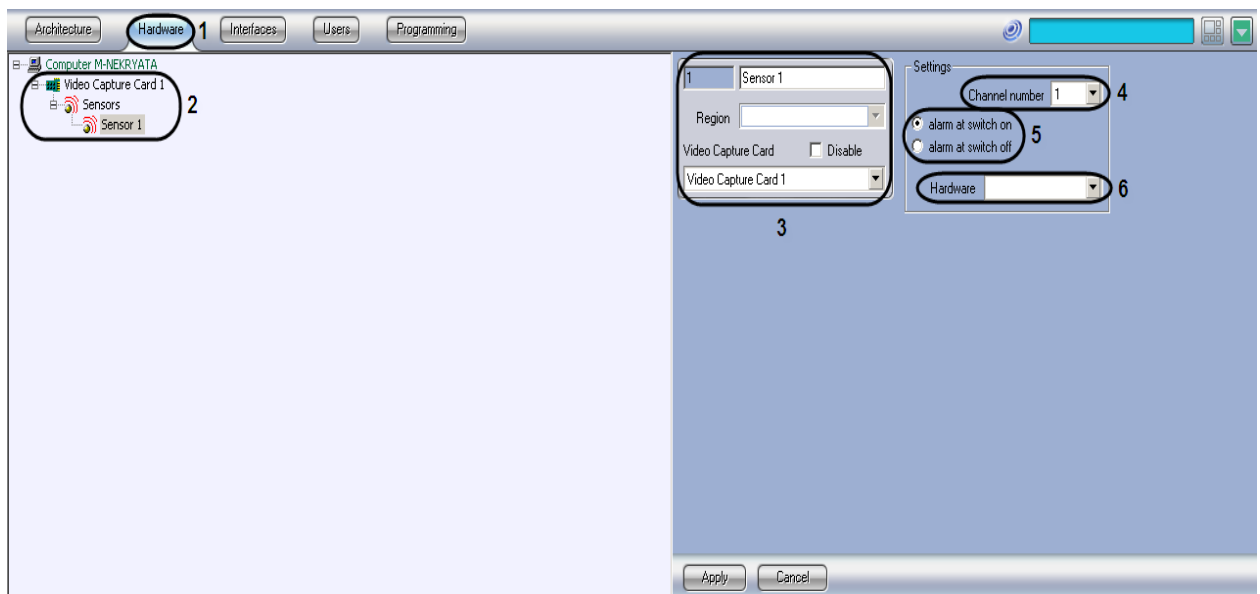

Figure 3.3-2 The setting panel of the Sensor object
- Go to the **Hardware** tab in the setting panel of INTELLECT™ (Figure 3.3-2, 1).
- Create the **Sensor** system object under the **Video capture card** object or select the corresponding object in the object tree in the **Hardware** tab of the setting panel of INTELLECT™ (Figure 3.3-2, 2).
- Specify the ID and name of the **Sensor** object and select the **Video capture card** object to become the parent of the **Sensor** object (Figure 3.3-2, 3).
- Select the **Channel number** matching the number of DO pin to which the sensor is connected (Figure 3.3-2, 4).
- In the group of switches select the alarm mode: at switch on or at switch off. By default the **alarm at switch on** mode is selected (Figure 3.3-2, 5).
6. In the **Hardware** dropdown list select the type of executive device used as the detector in the guarded area (Figure 3.3-2, 6).